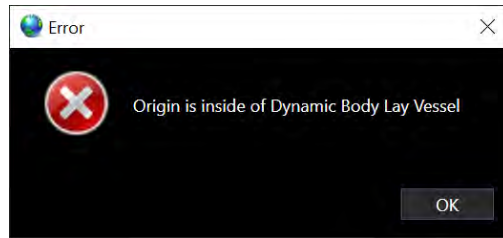

FIGURE 19-30 ALERT POPUP WINDOW
2. **Show message box:** If the On error, On warning and/or On message checkboxes in the settings dialog are checked, a popup message will appear on screen whenever an alert occurs. This will pop up in the middle of the screen in front of all other windows but is non-modal, meaning it still allows the user to interact with NavView before clicking the OK button (see Figure 19-30)